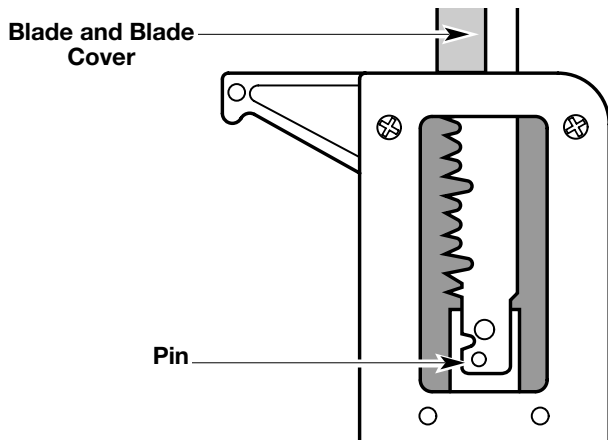

Fig. 1
2. Insert the blade through the end of the pruner housing and install the blade over the pin (Fig. 1). The blade teeth should face the foot side.